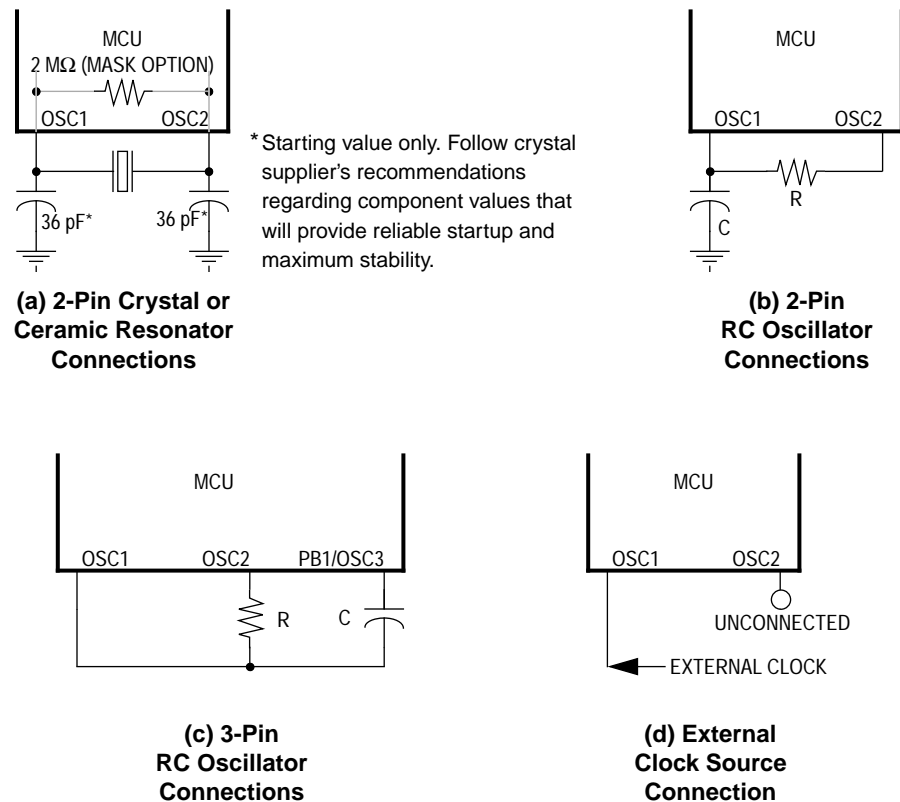

Figure 1-3. Oscillator Connections
1. A crystal, as shown in Figure 1-3\(a\)
2. A ceramic resonator, as shown in Figure 1-3\(a\)
3. An external resistor and capacitor using two pins, as shown in Figure 1-3\(b\)
4. An external resistor and capacitor using three pins, as shown in Figure 1-3\(c\)
5. An external clock signal, as shown in Figure 1-3\(d\)
The circuit in **Figure 1-3(a)** shows a typical 2-pin oscillator circuit for an AT-cut, parallel resonant crystal. The crystal manufacturer's recommendations should be followed, since the crystal parameters determine the external component values required to provide maximum stability and reliable startup. The load capacitance values used in the oscillator circuit design should include all stray capacitances. The crystal and components should be mounted as close as possible to the pins for startup stabilization and to minimize output distortion. An internal startup resistor of approximately $2\text{ M}\Omega$ is provided between OSC1 and OSC2 when the crystal/ceramic resonator oscillator option is used.
In cost-sensitive applications, a ceramic resonator can be used instead of the crystal. The circuit in Figure 1-3\(a\) is for a ceramic resonator also. The resonator manufacturer's recommendations should be followed, since the resonator parameters determine the external component values required for maximum stability and reliable starting. The load capacitance values used in the oscillator circuit design should include all stray capacitances. The ceramic resonator and components should be mounted as close as possible to the pins for startup stabilization and to minimize output distortion. An internal startup resistor of approximately 2 M Ω is provided between OSC1 and OSC2 for the crystal/ceramic resonator oscillator mask option register bit.
The 2-pin RC oscillator configuration can be used for very low-cost applications. With this option, a resistor must be connected between the two oscillator pins and a capacitor must be connected from the OSC1 pin to V_{SS} , as shown in Figure 1-3\(b\). The signal on the OSC2 pin is a square wave and the signal on the OSC1 pin approximates a triangular wave.
Another low cost, but more accurate, type of RC oscillator is the 3-pin configuration utilizing the PB1/OSC3 pin. With this option, a resistor must be connected between the OSC1 and OSC2 pins and a capacitor must be connected between the OSC1 and PB1/OSC3 pins, as shown in **Figure 1-3(c)**. This 3-pin RC oscillator is more accurate than the 2-pin RC oscillator with respect to temperature, supply voltage, and/or device processing variations. The signal on the OSC2 and PB1/OSC3 pins is a square wave and the signal on the OSC1 pin approximates a triangular wave.
An external clock from another CMOS-compatible device can be connected to the OSC1 input, with the OSC2 input not connected, as shown in **Figure 1-3(d)**. This configuration is possible regardless of whether the oscillator is set up for crystal/ceramic resonator, 2-pin RC, or 3-pin RC operation. However, if the 3-pin RC oscillator is selected, the PB1/OSC3 pin also must be left unconnected.